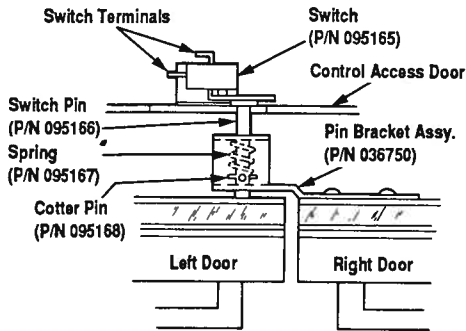
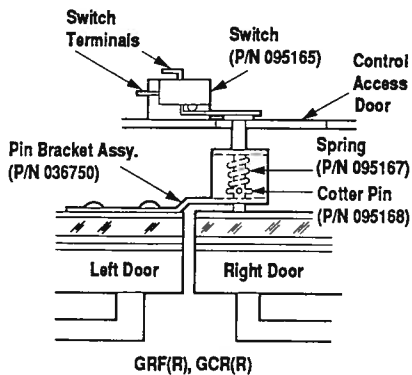

Figure 57
Figure 58
The pin/switch bracket assembly is mounted on the right door assembly for the GST, GPF(L) and GCR(L) models (Figure 57). It is mounted on the left door assembly for the GCR(R) and GPF(R) model (Figure 58). This bracket has been pre-adjusted at the factory. It can, however, be re-adjusted in the field if necessary.